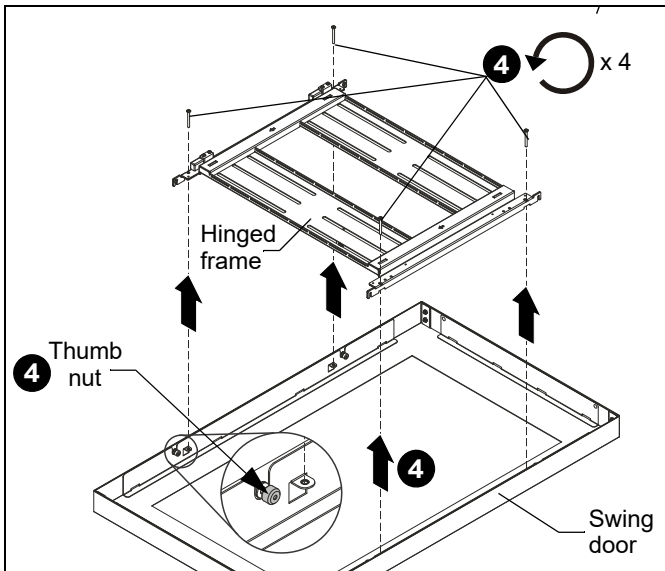

Figure 2
4. Remove and **SAVE** four Phillips screws, loosen four thumb nuts and remove hinged frame from swing door. (See Figure 2)